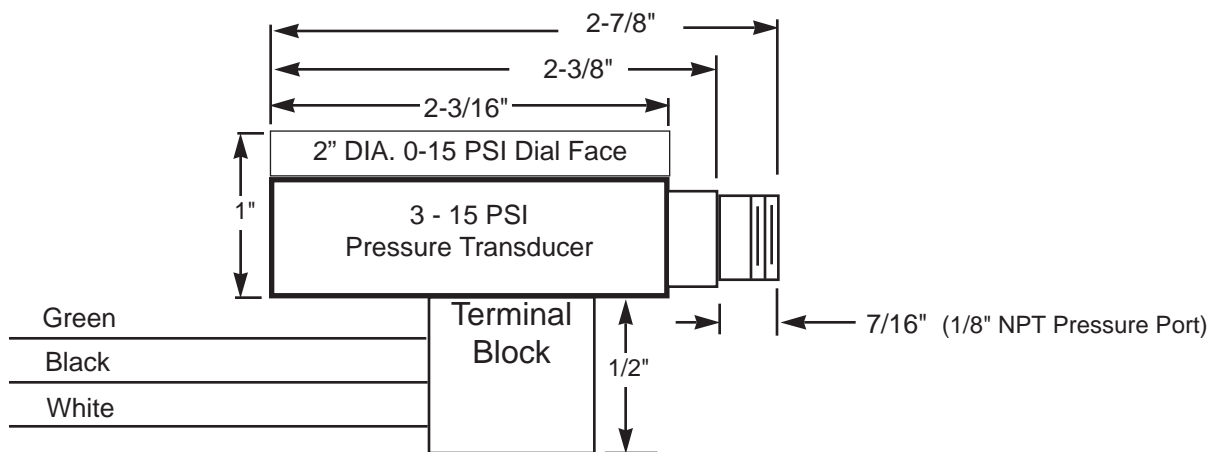

Figure 1. Transducer Module
3. Mount the Transducer close to the Drive, using the module (Figure 1) as a template for mounting hole spacing and hardware size.